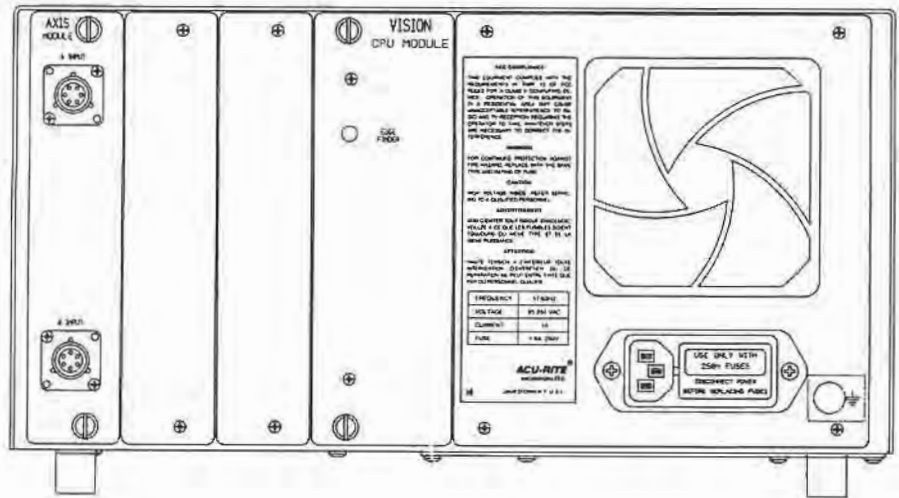

Figure 2. Rear Panel.
- 2) Remove the two screws and cover plate from the desired module slot on the back of TURNVISION (Figure 2).